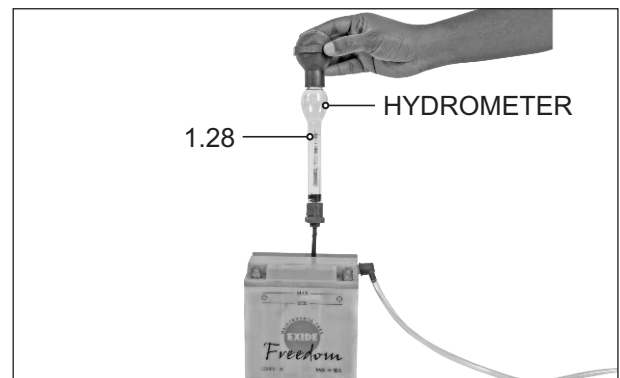

Fig. 5.74
- Battery can be considered to be fully charged when three consecutive specific gravity (SG) readings taken at intervals of 30 minutes each, indicating a reading of 1.28. (Fig. 5.74)